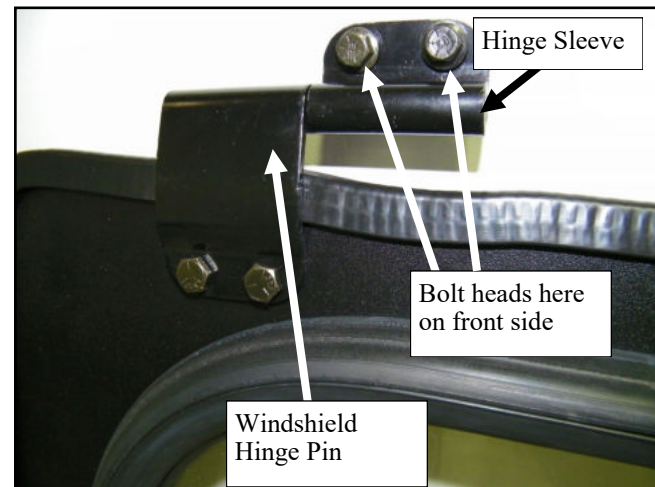

Fig. 7.2 (view of passenger's side)
7.2 Set the windshield onto the vehicle and twist the latches to hold it into place. Slide the hinge sleeves onto the windshield hinge pins, oriented as shown in figure 7.2. Fasten using the hardware listed below. **Note: Install both the steel and rubber fender washers on the inside of the cab as shown in fig. 7.2a. Install finger tight at this time.**